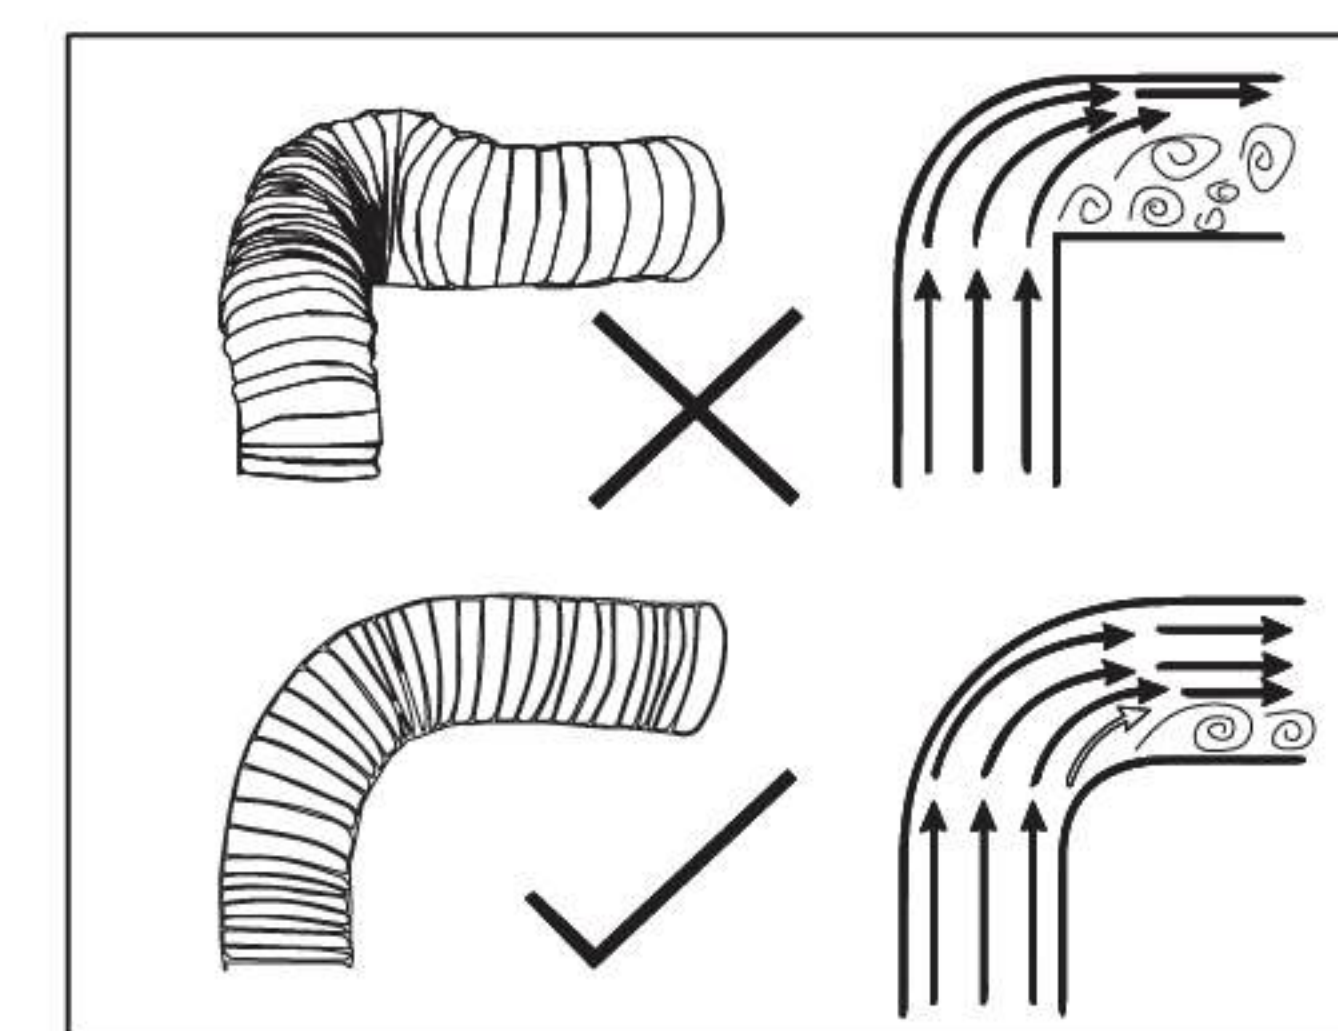

fig 7
5. Arrange the exhaust duct: the aluminum foil exhaust duct and the reserved smoke tube or wall hole shall be sealed tightly to prevent smoke leakage, the smoke tube shall be free from extrusion, deformation and small-angle elbow, the number of elbows shall not exceed 2, and the smoke tube shall be straightened and fixed.(fig 7)